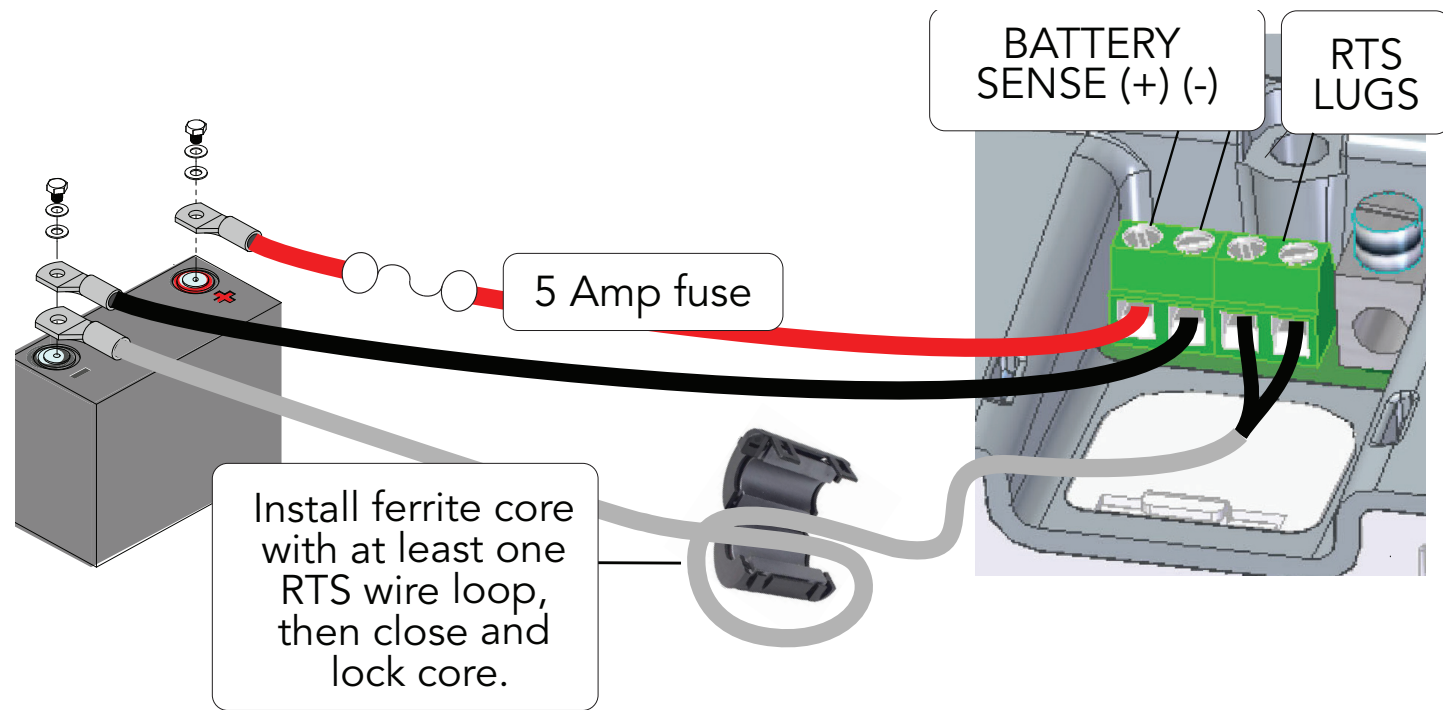

Figure 3-3. Accessory installation detail
(3) ferrite chokes are included for individual installations around an RTS cable, PV (+) and (-) cables (in one choke) and Ethernet cable. See Figures 3-3 and 3-4 for installation details conforming to FCC Class B EMI requirements. Each core must be installed as close to the GenStar MPPT as possible.
**Accessory Wiring** - refer to schematic in Figure 3.3 below when following 3.4.1 and 3.4.2 on next pages.
### 3.4.1 Battery Voltage Sense Wires - refer to Figure 3-3 above
The two sense wires, can range in size from 1.0 to 0.25 mm2 (16 to 24 AWG), and should be cut to length as required to connect the battery to the voltage sense terminals. The 2-position terminal - to the left of (beyond the RTS terminals) the Load (+) terminal (see Figures 3-3 and 3-4) is used for the battery sense connections. A twisted pair cable is recommended but not required. Use UL rated 300 Volt conductors. The voltage sense wires may be pulled through conduit with the power conductors.
### 3.4.2 Remote Temperature Sensor With Ferrite Choke - refer to Figure 3-3 above
Connect the RTS to the 2-position terminal located immediately to the left of the Load (+) terminal (see Figures 3-3 and 3-4).